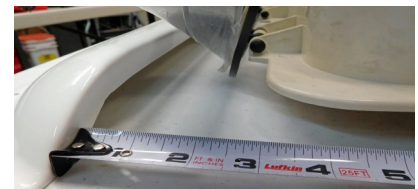

Figure 2
2. Position the template where the hole will be cut, and mark the roof for cutting. Make sure that the position of the cut allows for the installation of the spoiler, if used. The trailing edge of the spoiler should be located 3 inches ahead of the leading edge of the hatch mounting flange. *See Figure 2*. If the spoiler is not used, allow room to the closest structure to allow for full opening of the hatch. There should be 1/2" minimum clearance from the open hatch to the nearest structure at full opening.